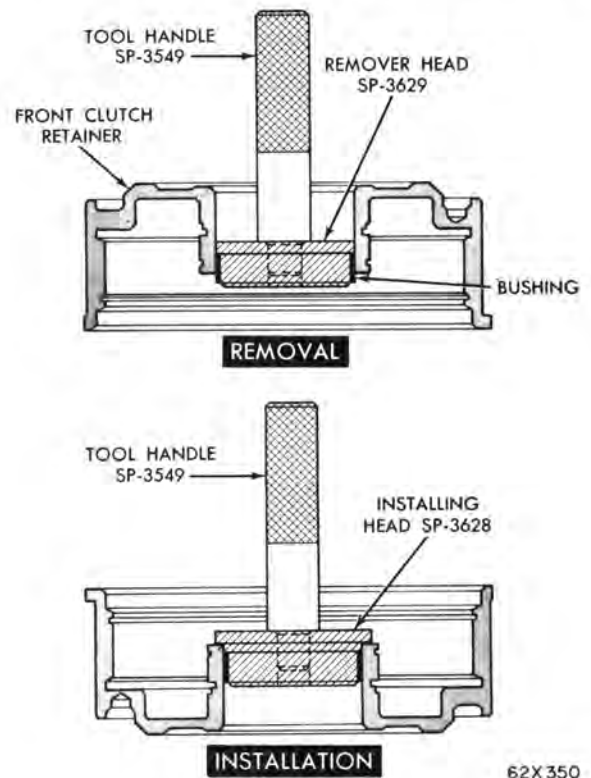

Fig. 94—Replacing Front Clutch Retainer Bushing
(1) Lay the clutch retainer (open end down) on a clean smooth surface and place the removing head Tool SP-3629 in the bushing. Install the handle Tool SP-3549 in the removing head (Fig. 94).
(2) Drive the bushing straight down and out of the clutch retainer bore. Be careful not to cock the tool in the bore.
(3) Lay the clutch retainer (open end up) on a clean smooth surface. Slide a new bushing on the installing head Tool SP-3628, and start them in the clutch retainer bore.
(4) Install handle Tool SP-3549 in the installer (Fig. 94). Drive the bushing into the clutch retainer until the tool bottoms.
(5) Thoroughly clean the clutch retainer before assembly and installation.